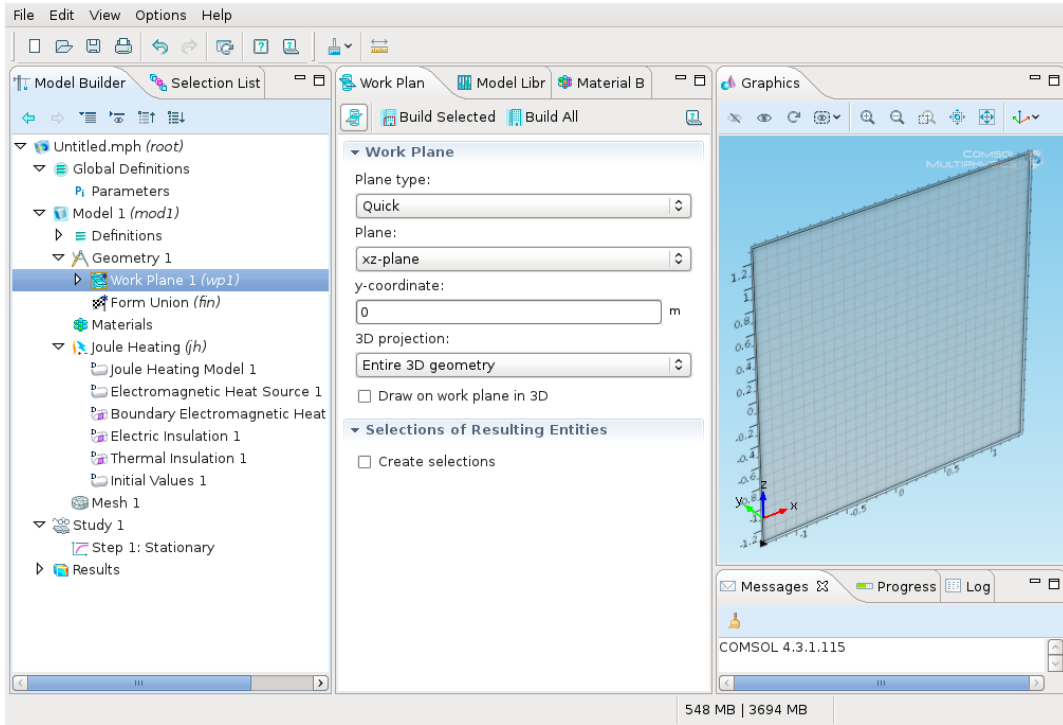

Figure 7: Work plane.
- **Model 1: right button → Geometry 1 → Work Plane.** *Work Plane* parameters set as in the Fig. 7;